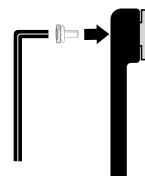

Figure C3
4. Secure the crank using the 8mm crank bolt **10** and torque to 34-40 ft-lb (47-57 n-M) (Figure C3).